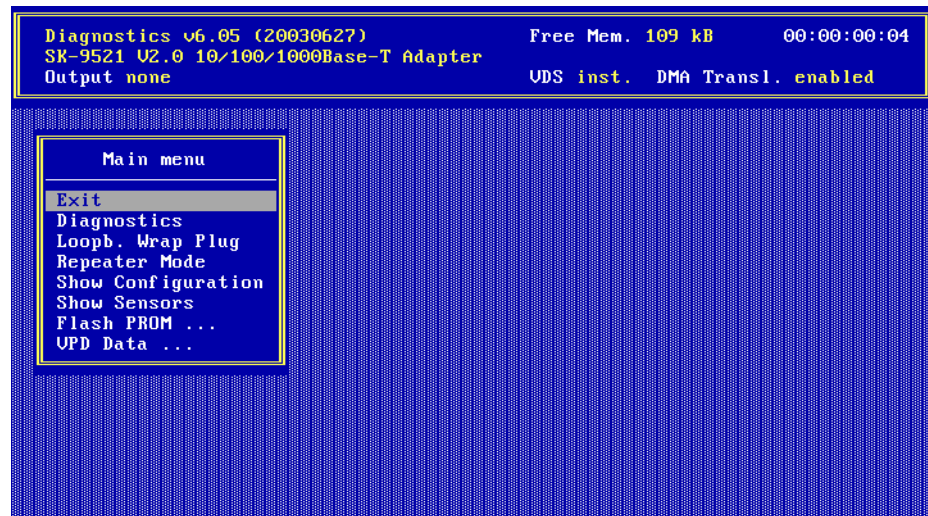

Figure 7. Diagnostics program, main menu
7. Select the appropriate item from the menu (see figure 7).